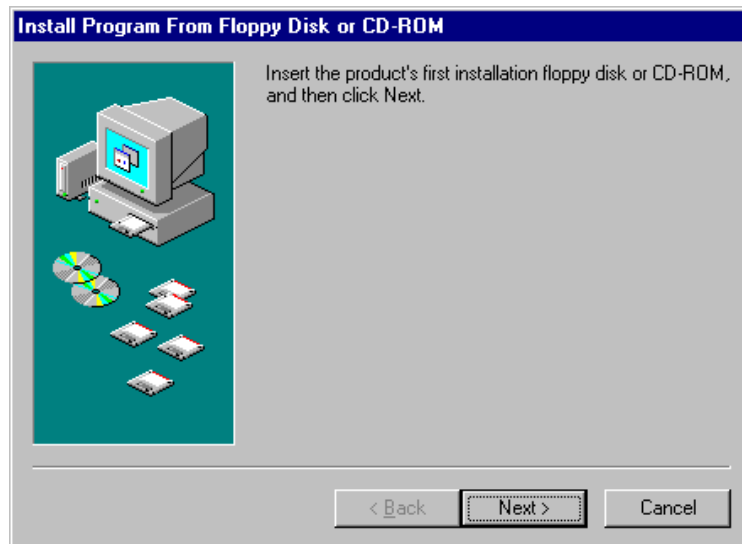
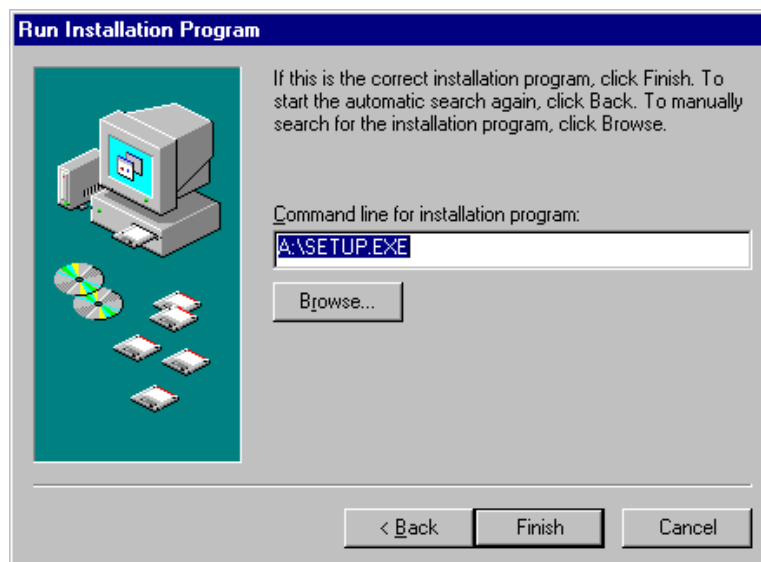

Figure 10.4 [Install Program From Floppy Disk or CD-ROM]
Figure 10.5 [Run Installation Program]
- (4) Click the <Next> button in the window shown in Fig. 10.4. The window shown in Fig. 10.5 appears.